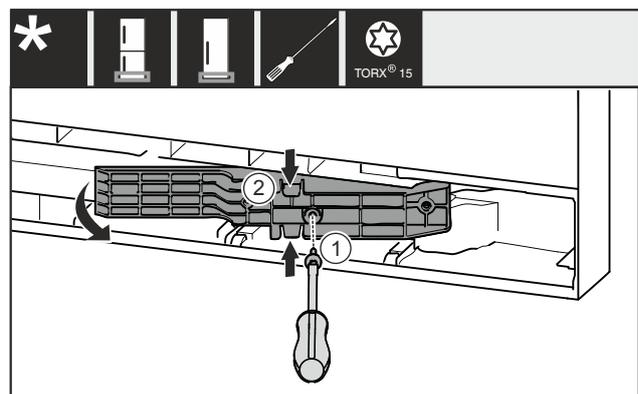

Fig. 22 *
- ▶ Remove the screw Fig. 22 (1)*
- ▶ Gently press the adapter piece Fig. 22 (2) together at the top and bottom and pull it out.*